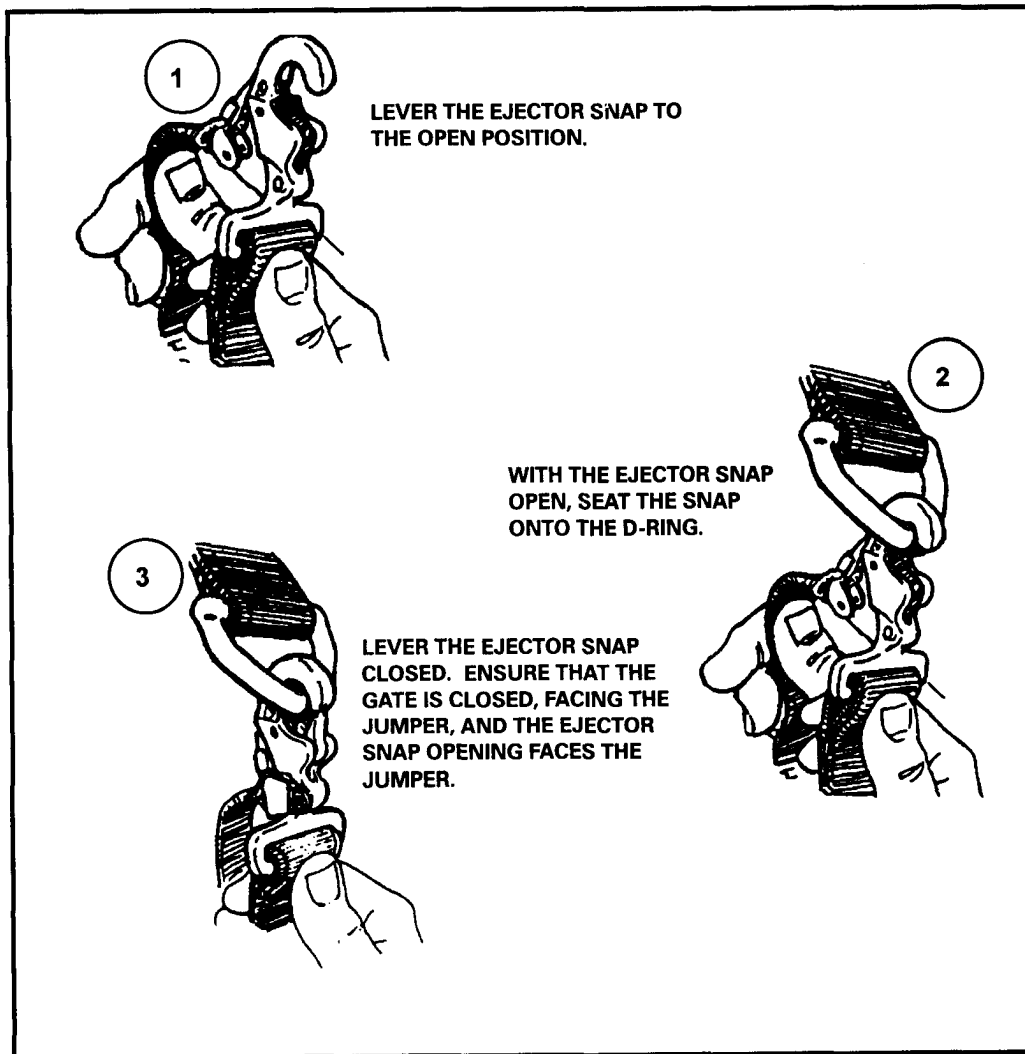

Figure 12-7. Ejector snap on HPT lowering line attached to accessory attaching ring on lowering line adapter web.
(2) Attach the HPT lowering line ejector snap to the accessory attaching ring on the lowering line adapter web (Figure 12-7).